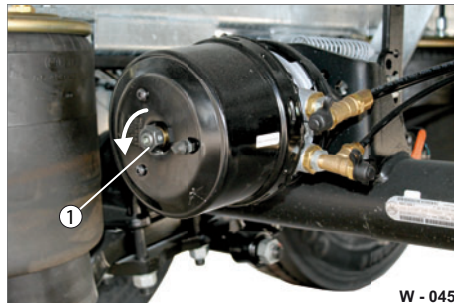

Fig. 44 Releasing parking brake
- Unscrew the release screw (Fig. 44/1).
- Screw on the release screw (Fig. 44/1).